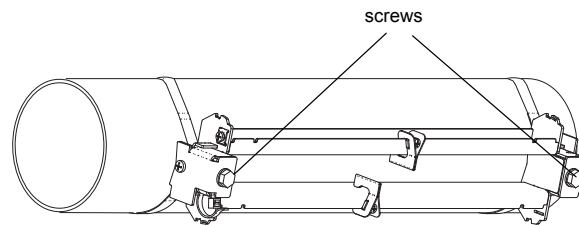

Fig. 7.10: Rail on the pipe
- Use the screws to fix the rail to the tension strap clamps (see Fig. 7.10).